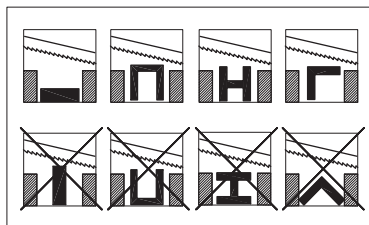

Fig. 11
4.6 POSITIONNEMENT DE LA PIECE DANS L'ETAU (Fig.11)